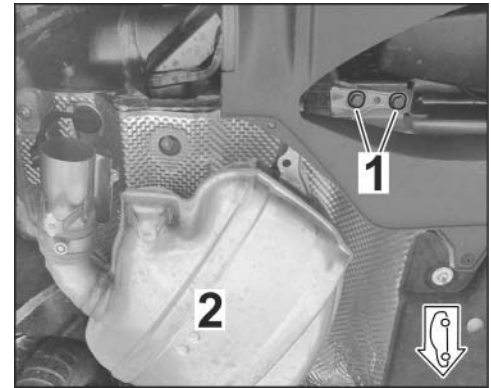

Figure 9
1.3.6 Unscrew M8 x 40 hexagon nuts on the rear silencer holder (⇒ *Figure 9*).